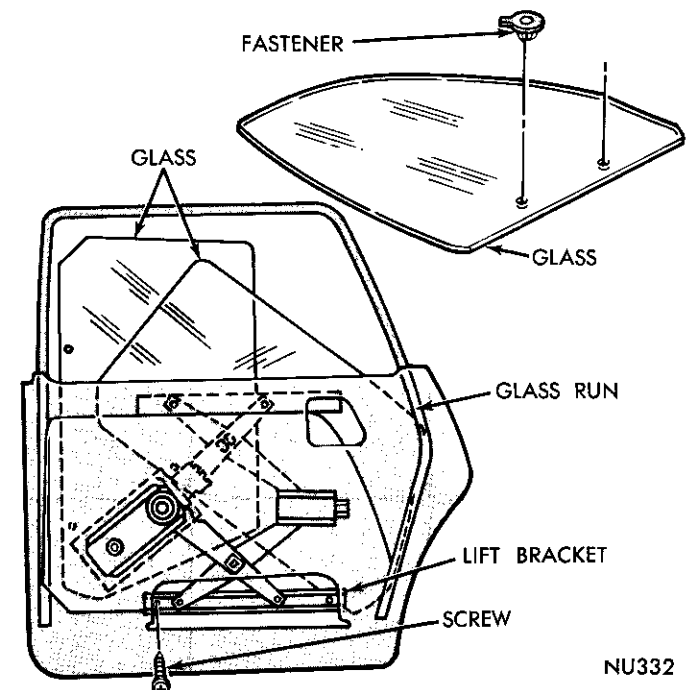

Fig. 54—Glass Replacement
- (1) Remove lift channel to door glass fastener screws (Fig. 54).
- (2) Rotate front edge of glass rearward and up to disengage ends of glass from run channels.
- (3) Lift glass assembly out of door.
- (4) Remove lift fasteners from glass (Fig. 54).
- (1) Position lift fasteners into glass from glass inner surface (Fig. 54).
- (2) With bottom of glass in forward position, lower glass into door.
- (3) Rotate front edge of glass forward and down, engaging glass ends into the front and rear glass runs.
- (4) Align glass fasteners with holes in lift channel and secure with screws.